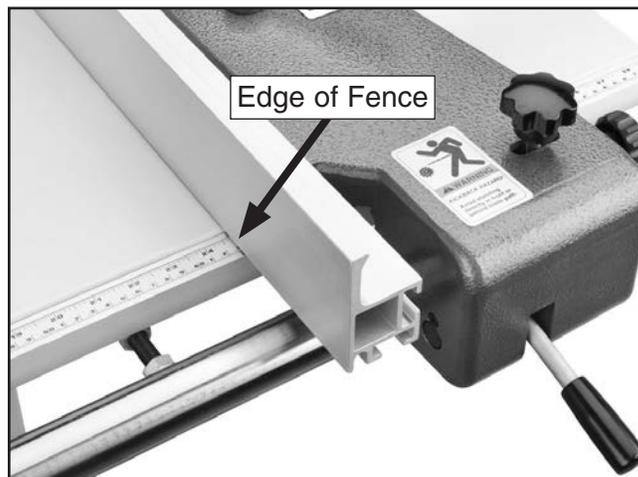

Figure 52. Edge of rip fence over scale indicates cutting width.
3. Adjust the rip fence to the location necessary for the width of cut, lining up the edge of the rip fence where necessary on the scale (see **Figure 52**), then locking the fence in place.